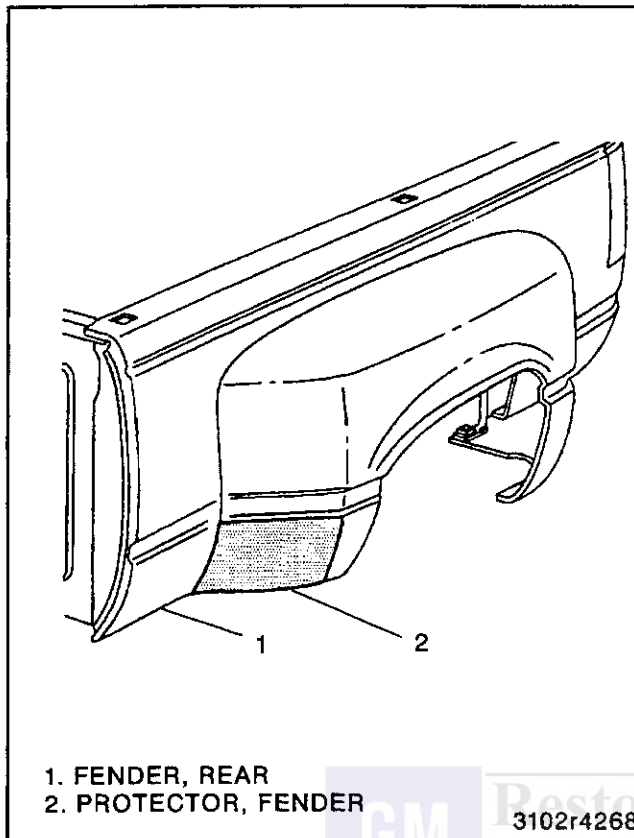

Figure 28—Fender Protectors
- Be sure the fender is clean (figure 28).